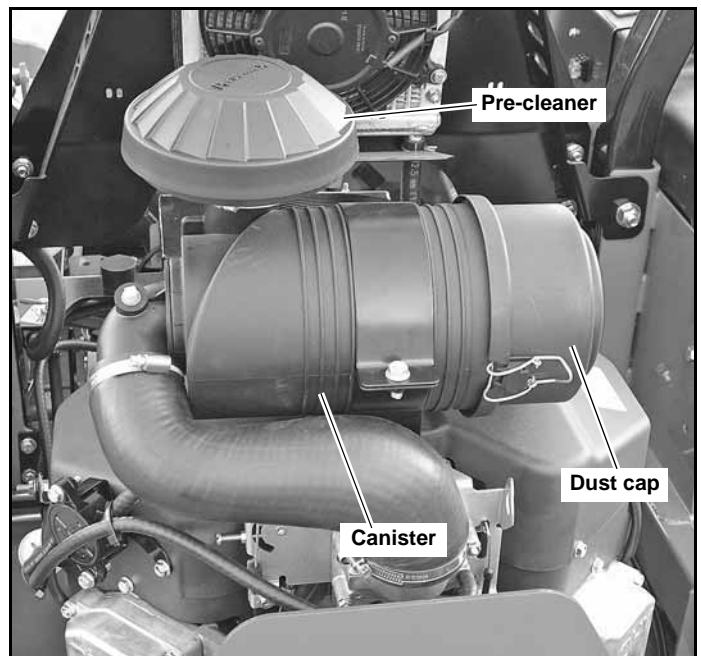

Figure 5-2
A specially designed dry filter is standard equipment on these mowers and supplies clean combustion air to the engine. Figure 5-2
3. Reinstall the dust cup. Make sure it seals all the way around the air cleaner body, then tighten the clamps. Figure 5-2